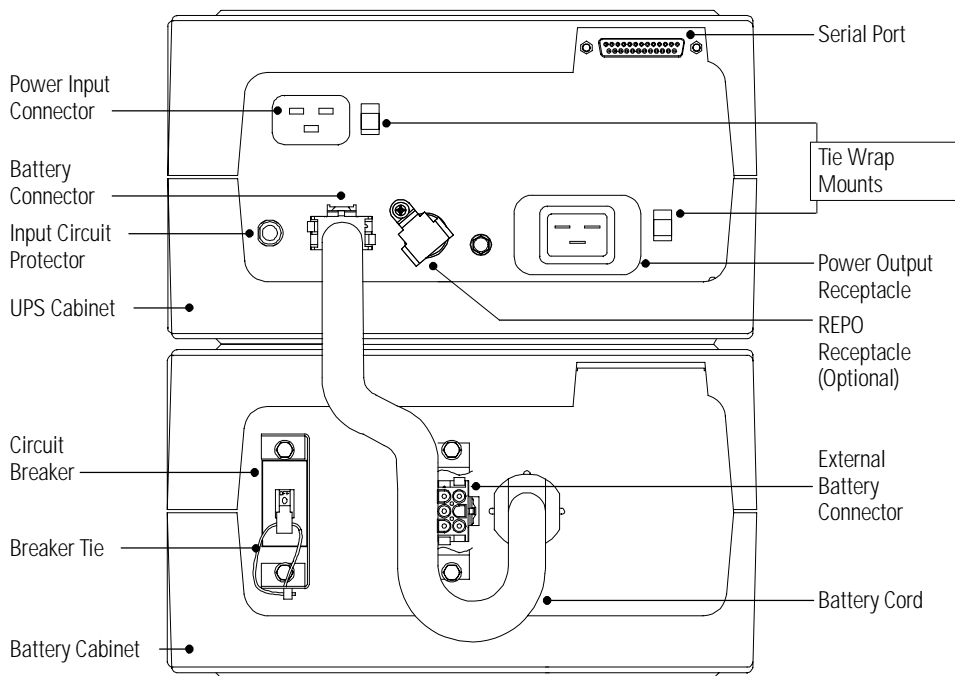

Figure 4. UPS Rear Panel
Whenever the units are not energized, verify the circuit breaker on all battery cabinets is returned to the OFF (O) position (see Figure 4 on page 31).
2. Verify the circuit breaker on all battery cabinets is in the OFF (O) position (see Figure 4).
8. Plug the optional output receptacle power strip or the optional Extended Power Distribution Module (EPDM 320-C20P) into the UPS power output receptacle (see Figure 4).
2. Pivot the REPO receptacle guard out of the way, plug the REPO plug/receptacle UPS connector into the REPO receptacle on the UPS rear panel and twist the connector in place (see Figure 4 on page 31).